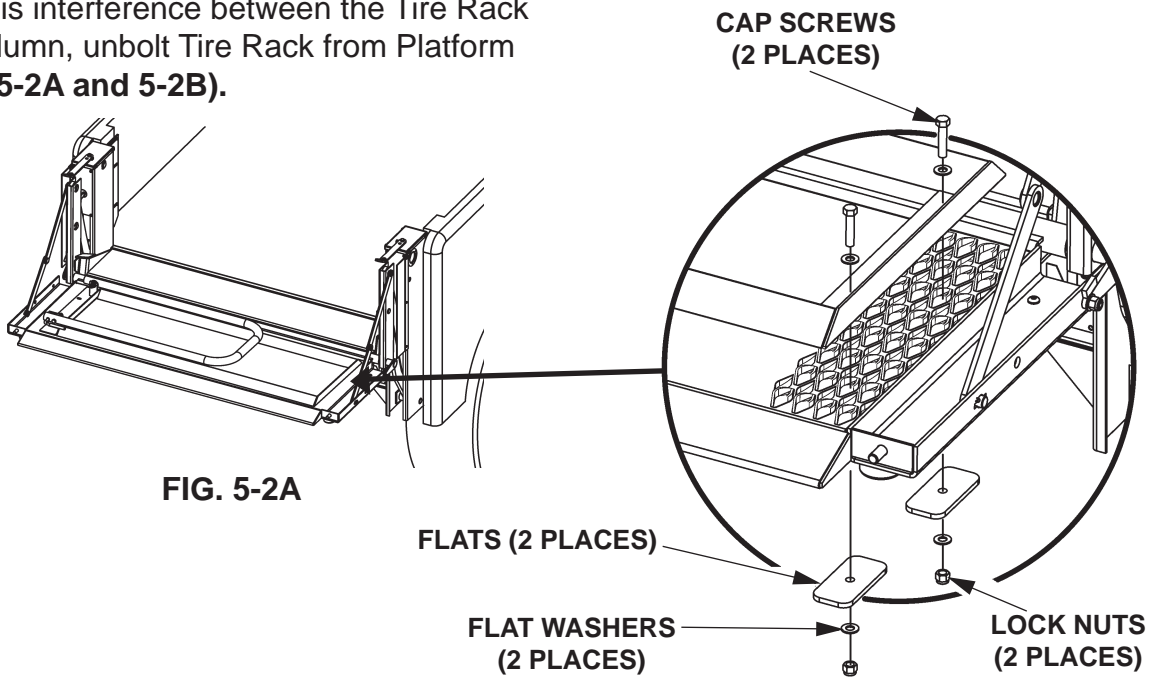

FIG. 5-2A
6. If there is interference between the Tire Rack and Column, unbolt Tire Rack from Platform (**FIGS. 5-2A and 5-2B**).